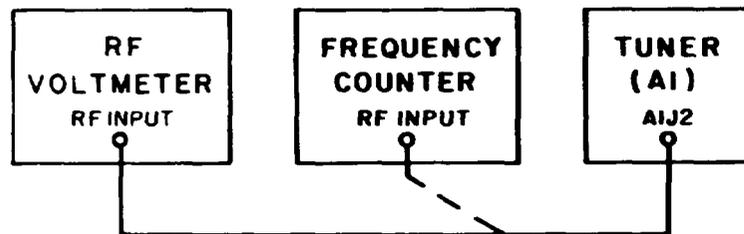

Figure 4-1. Test Setup, LO Performance Test
- (1) Connect the equipment as shown in Figure 4-1 and 4-6. Dashed lines indicate no connection at this time.
- (2) Tune the tuner over its frequency range. The LO level must be in the range of 0 to -13 dBm.
- (3) Connect the frequency counter in place of the RF voltmeter.
- (4) At the upper and lower band edges, vary the FINE TUNE control from the full CCW to full CW. The range should be at least 50 kHz.
- (5) Set the receiver to the low band edge.
- (6) Connect the power supply for negative 4 volts to FL5 of the Tuner. Record the frequency indication.
- (7) Connect the power supply for positive 4 volts to FL5 of the tuner. Record the frequency indication.
- (8) The difference in the two frequency counter indications must be at least 250 kHz.
- (9) Set the receiver to the upper band edge and repeat steps (6) and (7). The difference must be at least 500 kHz.